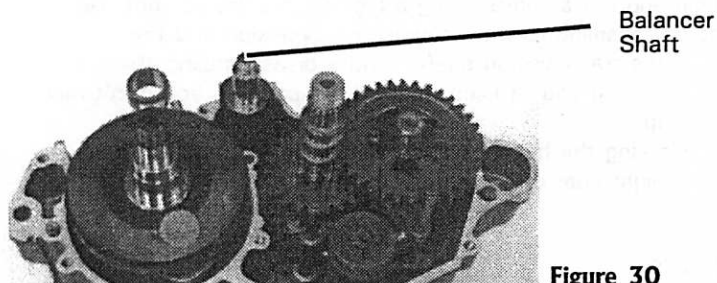

Figure 30
1. Remove the balancer shaft (Figure 30) from the right crankcase. The balancer shaft does not use any spacer shims.